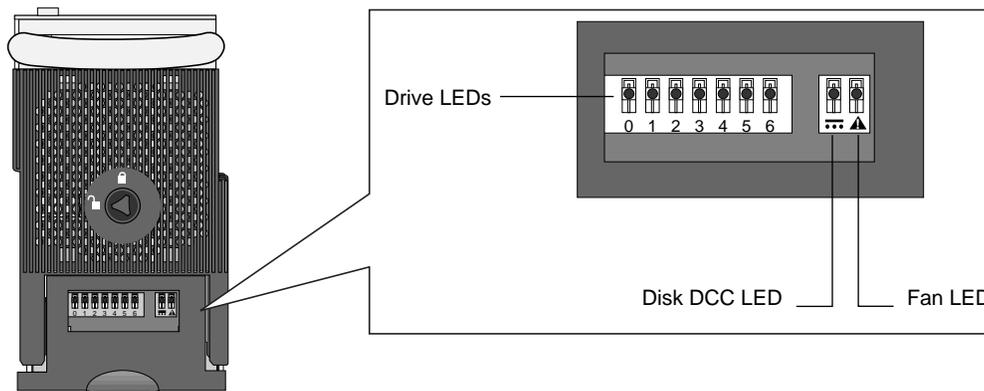

Figure 42. Location of fan LED
1. Observe the fan LED on the front of the HDDA (Figure 42). If a fan LED is lit, replace the fan using the procedure in the following section.